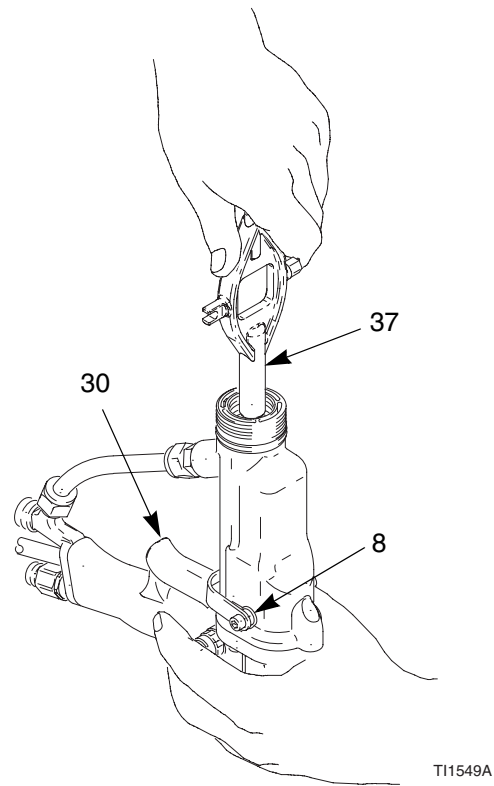

Fig. 14. Remove Fluid Packing
4. Loosen the trigger screws (8) and trigger (30). See FIG. 14.
5. Remove the packing rod (26), using the multi-tool (37).